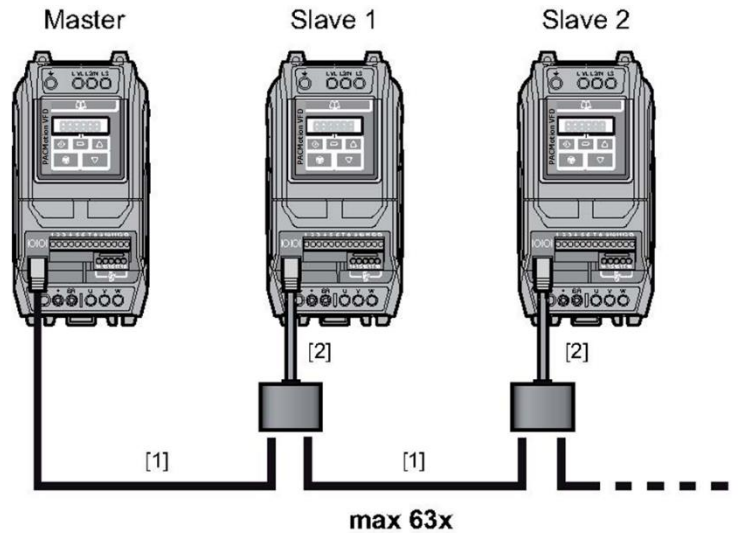

Figure 49: Master-Slave Drive Connections
**Note:** If the PC is to be connected to the daisy-chain, use IC855-CABL-USB485. This is a USB 2.0 to RS485 Adapter, as shown in Figure 46. Connect the jack end of this adapter to an unoccupied port in the cable splitter shown in Figure 49.